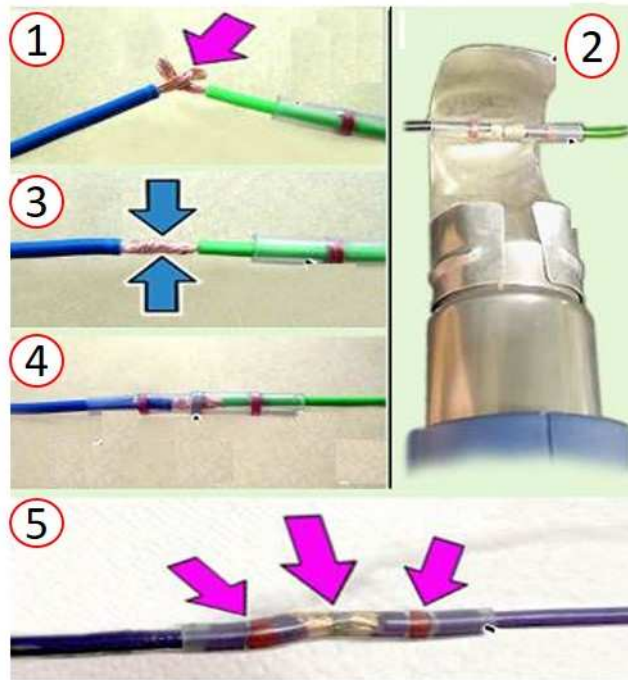

Fig. 7
NOTE: Cut the wire of the new connection to match the wires in the wiring, taking care to add 15 mm (5/8 in) of overlap so that the correct harness length will be maintained when the strands are twisted (Fig. 7) .
- Insert a heat-shrink solder tube from the Kit as shown in (Fig. 7) , and twist the wire strands.
NOTE: Make sure not to exceed the wire outer diameter, as shown in (Fig. 7) .
- Position the sleeve placing the tin ring in the center line of the strands, as shown in (Fig. 7) .
- The sleeve must be heated until the adhesive rings stick to the wire, for a perfect sealing and the tin ring melts, soldering the coupling, as shown in (Fig. 7) .